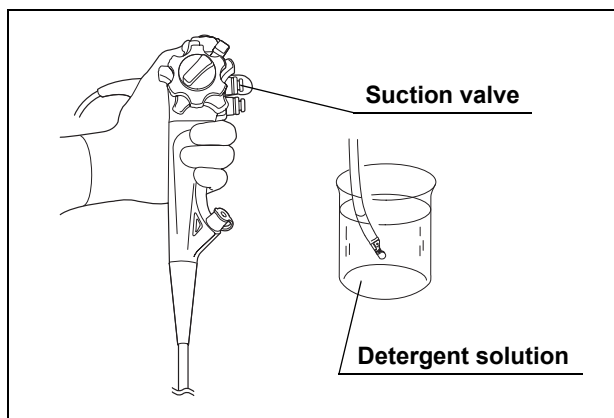

Figure 7.19
3. Immerse the distal end of the insertion section in detergent solution. Depress the suction valve to the first stage and aspirate detergent solution into the channel for 30 seconds. Then depress the suction valve completely and aspirate detergent solution into the balloon channel for 30 seconds (see Figure 7.19).
8. Immerse the distal end of the insertion tube in the water (see Figure 7.19).